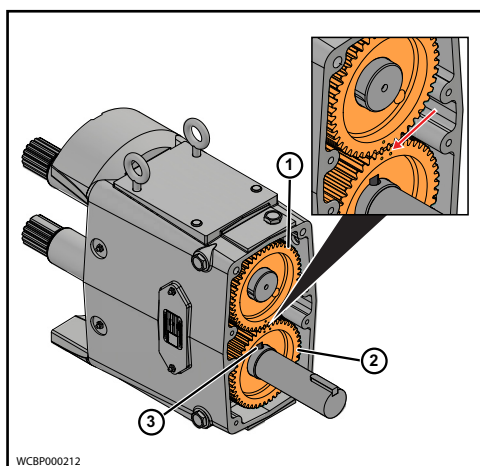

Figure 83 - Timing Gear Marks
1. Place the gear keys (3) into the shaft key slots. Angle the keys out for easier installation of the gears, as shown in Figure 83.
2. Slide the spur drive gear onto the drive shaft. The spur drive gear has one punch mark on the gear, as shown in Figure 83.
3. Slide the short shaft gear onto the short shaft. The short shaft gear has two punch marks on the gear. Straddle the single punch mark of the spur drive gear with the two punch marks on the short shaft gear, as shown in Figure 83.